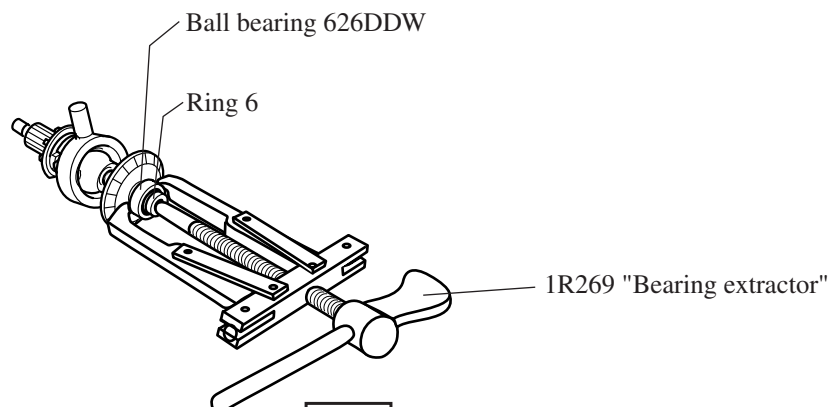

Fig. 13
- (1) Disassemble housing as per < 2 >, and then, take out the cam shaft unit from housing L.
(2) Remove ring 6 and ball bearing 626DDW with 1R269 "bearing extractor" as illustrated in Fig. 13.